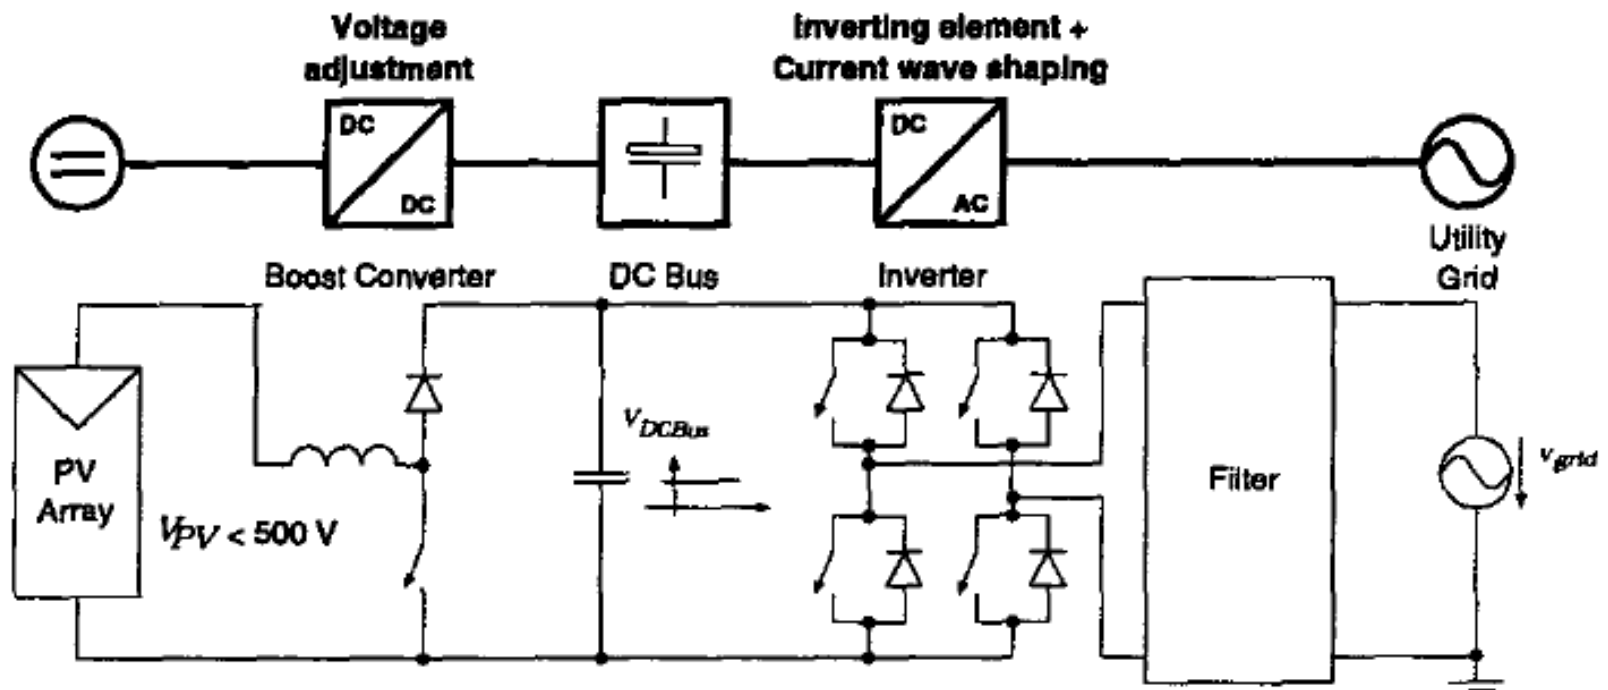

Fig. 6. Transformerless PV inverter with several conversion stages including boost stage.
- Figure 6 shows a third topology available on the market which avoids a transformer in order to reduce magnetic components and to increase efficiency. This topology can be used in several European countries e.g. Germany. Other countries require a transformer. While using a boost converter to boost the low PV voltage, shaping and inverting of the output current have to be done in the second converter stage at high voltage level.